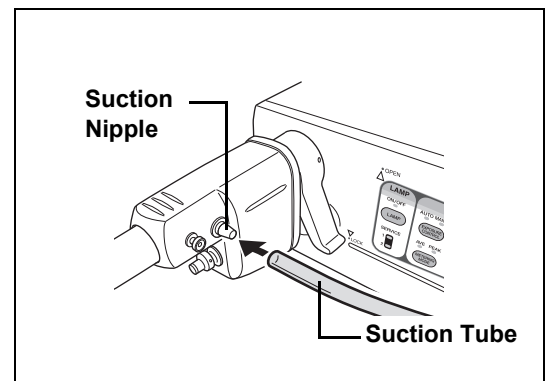

Figure 2.6
- 6** Connect the suction tube of the suction unit to the suction nipple of the PVE connector. (Refer to Figure 2.6)